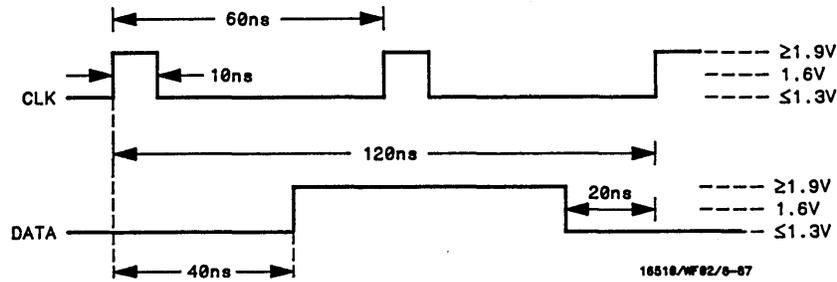

Figure 3-25. Waveforms for Clock, Qualifier, and Data Inputs Test 6
2. Adjust pulse generator for the output in figure 3-25. Use double pulse mode of the pulse generator for clock waveform.